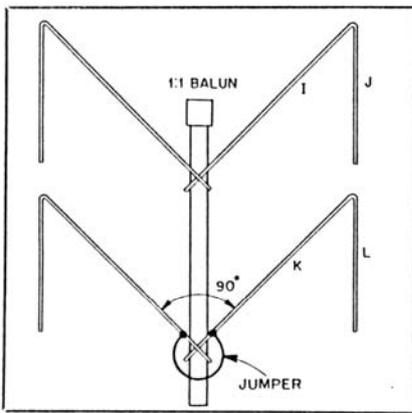

Fig 1—JG1UNE's Sigma beam. Tube sizes and lengths appear in Table 1.
□ A full-size beam antenna is great—if you have the space for one. Many of us, however, live in apartments and just don't have that space. Figs 1 through 4 describe the results of my experiments with a miniaturized beam antenna in a Σ (sigma) configuration. My antenna is mounted at the top of a tower, about 15 m above the building roof.
†Letters in parentheses are part identifiers as shown in Figs 1 and 4.